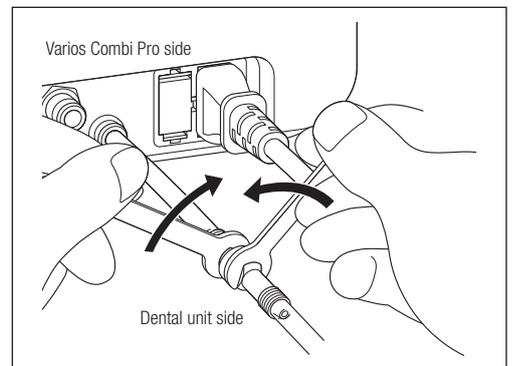

Fig. 57
- 3) Use two spanners (5x8) and turn in the directions shown below in Fig. 57.